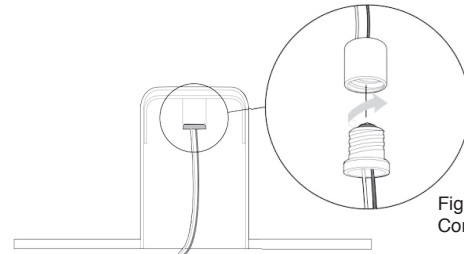

Figure 1 - Secure Edison-style Connector by screwing into socket
3. Connect the Edison-style connector to the recessed housing socket (as shown in Figure 1).